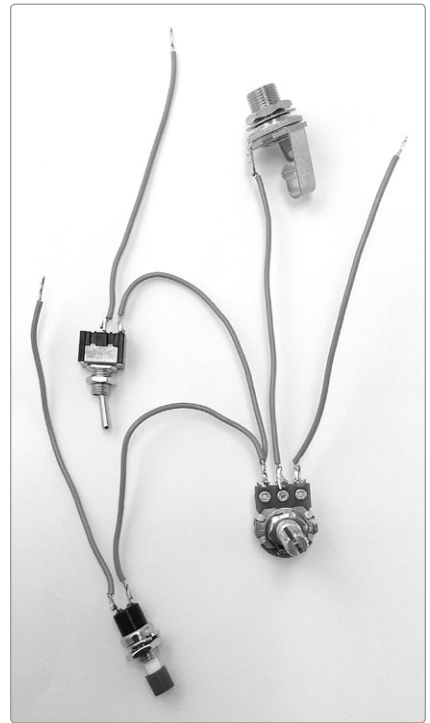

FIGURE 15-6: *The finished output assembly*
Step 4 Next, we'll connect the trigger and hold switches, 10k ohm volume pot, and output jack. First, take the 10k ohm pot and solder the wire from lug 2 to the tip lug of your 1/4-inch output jack. This is the lug that connects to the jack's metal tongue. (If you need a more detailed diagram of instrument jack and plug anatomy, flip to "Quarter-Inch Phone Plugs and Jacks" on page 337.) Take the two switches, twist together the ends of one wire from each switch, and solder this pair to lug 1 of the 10k ohm pot, as shown in Figure 15-6. Set aside the hardware until Step 12.